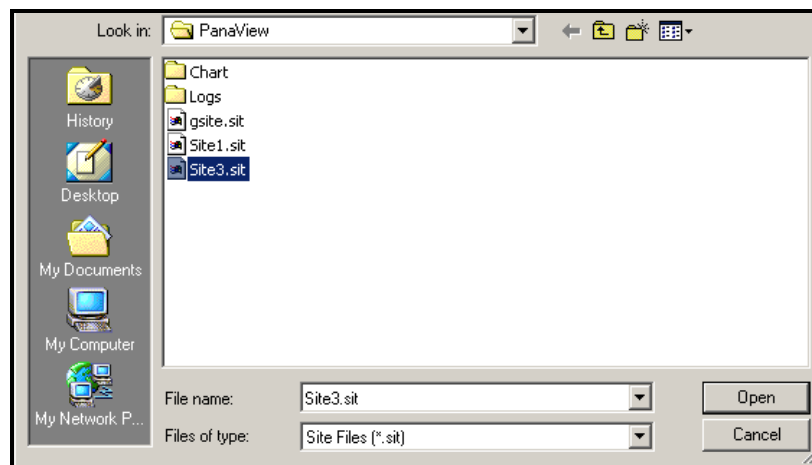

Figure 32: Site File Selection
2. Then click on the *Save Site to Meter* button. A screen opens similar to Figure 32 below.
3. The *Site File Selection* window (Figure 32 on page 108) opens. Highlight a site with the desired settings, and click [Open]. PanaView saves the site in the meter with the new name and the desired settings.
3. The *Site File Selection* window (Figure 32 on page 108) opens. Enter the desired site name (now with a .prt suffix) and click [Save]. PanaView displays a text version of the site, as shown in Figure 34 below.